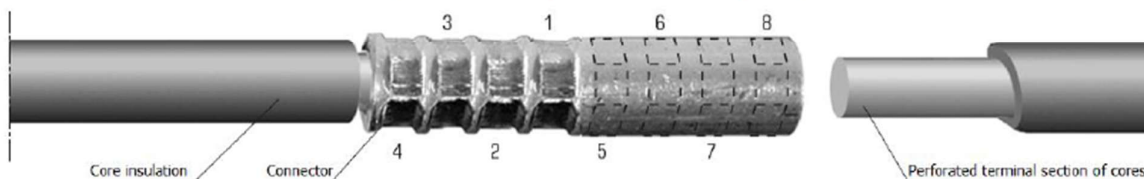

Fig. 2
- 3.1. Place connectors on each of the longer cores (at the pressed location) and press (pressing 1 ÷ 4) - Fig. 2.
- 3.2. Press the remaining cores - Fig. 2 (pressing 5 ÷ 8).